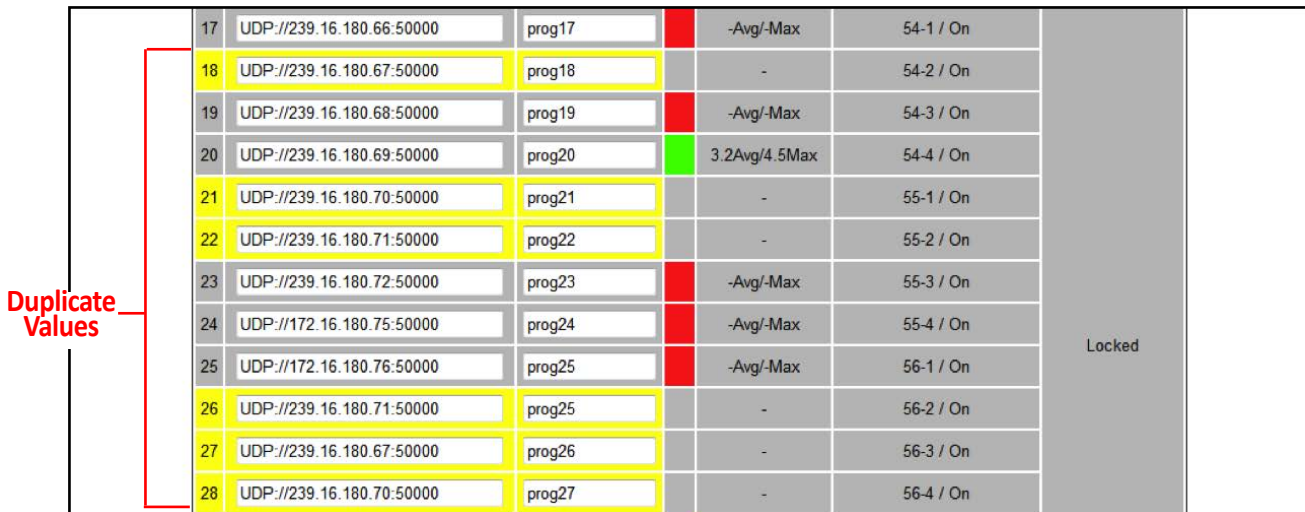

Figure 6.2.4 - "Main > Status > Edit" Screen when operating in SPTS Mode
The address entered here **MUST** be identical to the address of the source stream, or else the unit cannot recognize the source (IP) stream. No duplicate IP addresses are allowed. If duplicate IP addresses are entered, then the duplicate IP addresses will be highlighted in yellow as shown in Figure 6.2.4.